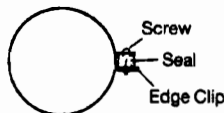

Fig. 18a
- 5.5.21** Assemble the large and small maintenance clips as shown in fig 18A